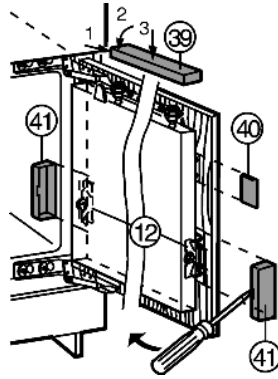

Fig. 31
- ▶ Position the upper cover *Fig. 31 (39)* and snap into place.
- ▶ Place the lateral cover *Fig. 31 (40)* in position, slide to the limit and then press until it snaps audibly into place.
- ▶ Attach covers *Fig. 31 (41)* to the side and then draw them forward with a screwdriver, so that they snap properly into place.